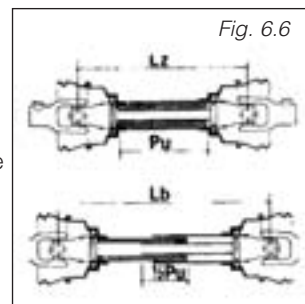

Fig. 6.6
1. Try to obtain the greatest possible overlap on the profile tubes. In its working position, the PTO drive shaft must not be extended by more than half of the profile overlap (Pu) available when fully compressed (Fig. 6.6.). The minimum overlap should be at least two times the diameter of the inner profile tube.